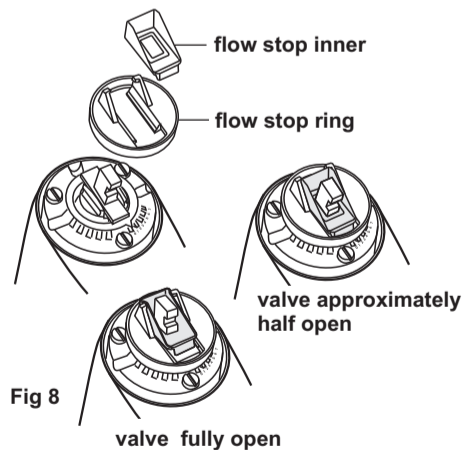

Fig 8
The Ceraplan single lever basin and bidet fittings incorporate a water saving mechanism which creates a resistance when the water flow is approximately 50% of maximum. Raising the lever past this resistance permits the cartridge to be opened fully. The mechanism consists of two parts. A flow stop ring and a flow stop inner (see Fig 8).
1. Remove the handle (1) & shroud (4).
2. Remove the two-part 'click' mechanism - see Fig 8.